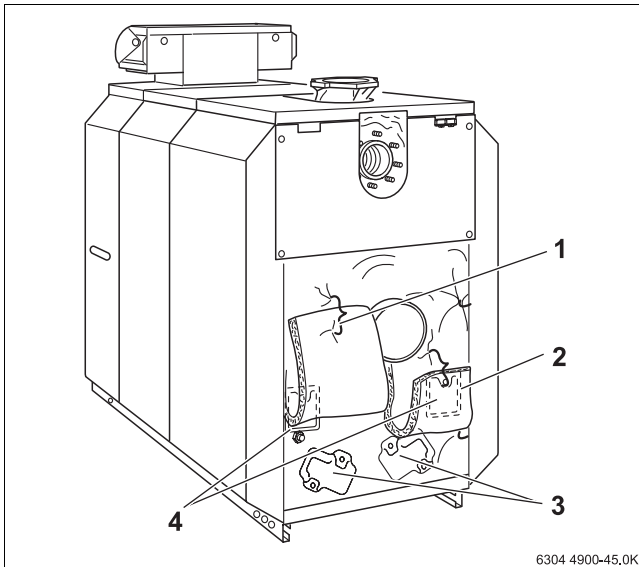

Fig. 62 Removing the cleaning cover
- Remove the combustion residues by sweeping them forwards through the combustion chamber opening and through the clean-out openings on the rear section and the flue gas header (→ Fig. 62, page 41).